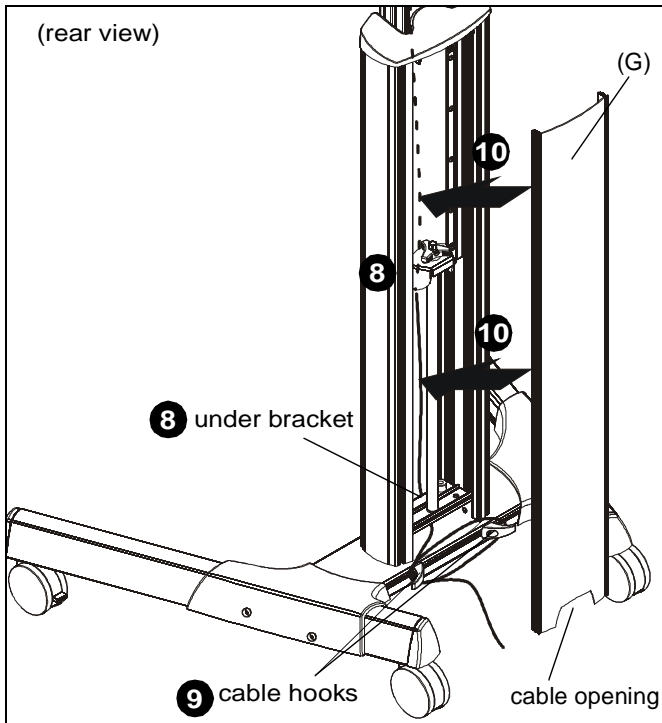

Figure 15
8. Route cables down column channel, tucking them behind height-adjustment carriage and underneath bracket holding height-adjustment shaft. (See Figure 15)
9. Wrap cables around cable hooks as desired. (See Figure 15)
10. Snap back cover (G) onto back of column assembly making sure cables fit through opening at bottom of cover. (See Figure 15)
WARNING: Do not attempt to raise or lower the adjustment carriage beyond its upper or lower limit. High and low points are shown in Figures 15 and 16.